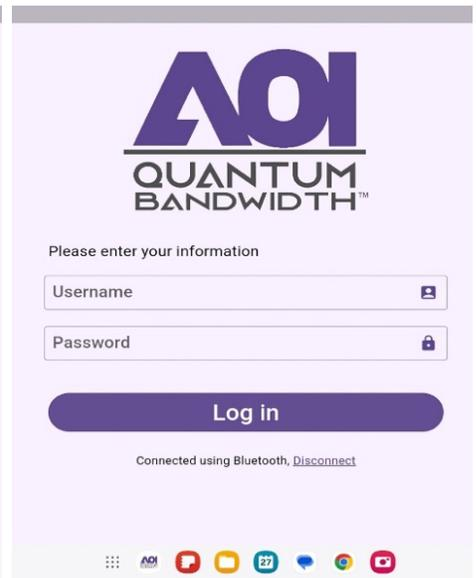

Figure A- 6: Login
- Log into the QuantumLink Local Mobile Application, using an accepted username and password. Figure A-6.